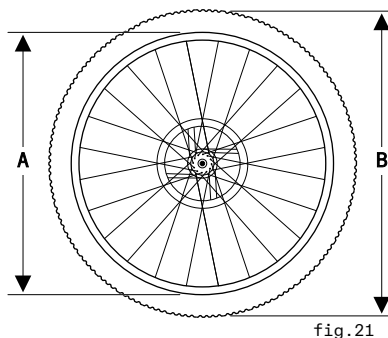
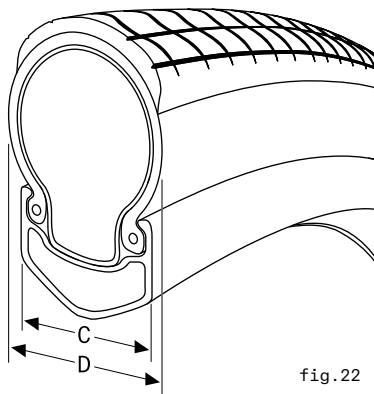

fig.21
fig.22
Wheel rims and tires come in a wide range of diameters (fig.21) and widths (fig.22). The nominal diameter of the rim (A) must match the nominal diameter of the tire (B), and the width of the rim (C) must be compatible with the width of the tire (D).